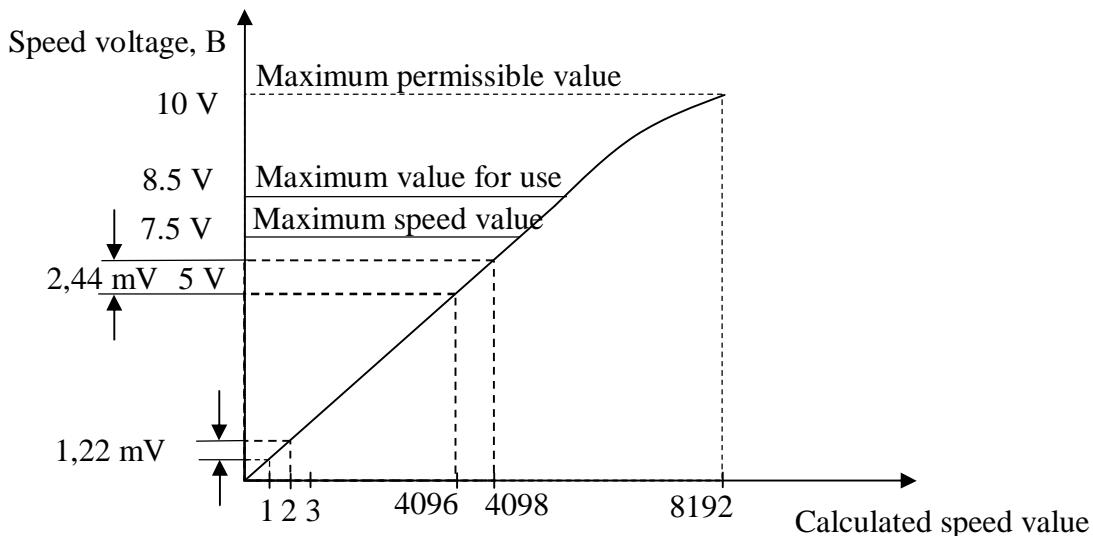

Figure 5.10
5.3.3.3 The **DAC** device converts the influencing factors, originating from the **CPU** and arriving in a 14-digit code, into an analog voltage. Then this voltage is sent to the drives of equipment to be controlled. This correspondence between the coding and the analog voltage at the **DAC** output is shown in Table 5.9. The graph of the **DAC** output voltage is presented in Figure 5.10.